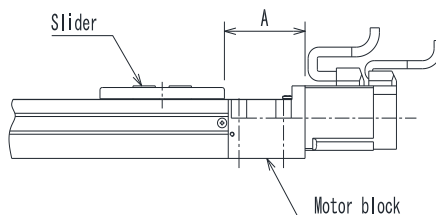

Fig. 5.4-3
- (4) Temporarily connect the actuator and controller, connect the teach pendant with the controller, then turn the power on. For how to connect, see Para. 2.5.4 of the instruction manual (basic) provided separately.
- (5) Set the servo gain values (position and speed) of Parameter 1 to zero (0). For the setting procedures, see Para. 13.3.3,13.3.4 of the instruction manual (basic).
- (6) Specify "3" for the home return method of Parameter 2.
- (7) Execute the home return. After the motor has stopped, move the slider end manually to the position "A" mm away from the motor block end surface. (See Fig. 5.4-3.)
- (9) Turn the power on again, return the servo gain values (position and speed) to the previous values, then specify "2" for the home return method of Parameter 2.
- (10) After the power is turned off, then on again, execute the home return and make sure that the actuator is as shown in Fig. 5.4-3.
- (11) Reassemble the stainless sheet in Step (3) above as originally set. The stainless sheet should be stretched straight not to cause a sag.